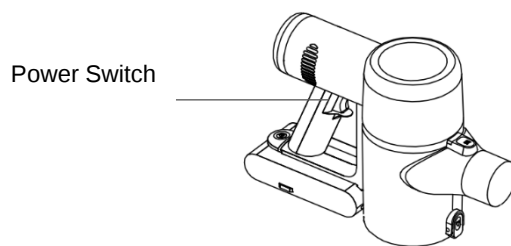

Figure 9
3. Press the power switch to start the vacuum cleaner, the machine is automatically running at the medium speed. (Figure 9).